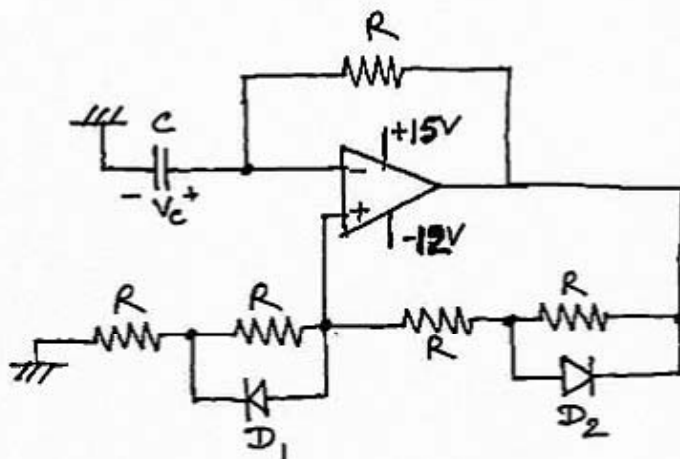

FIG. P3.
- Q3. For the circuit shown in Fig. P3 with ideal switching diodes (OFF when voltage across it is negative and ON when voltage across it is positive) and an ideal OPAMP, what is the difference between the maximum and the minimum values of the capacitor voltage (V_C)? (5)